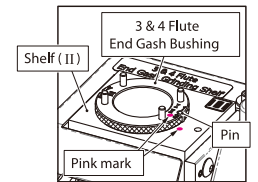

Fig. 7-2
2. End Gash Grinding Shelf (II) (Fig. 7-2) Insert 3 & 4 Flute End Gash Bushing into the Shelf (II), align No.(I-II) of the bushing to the pin on the shelf, then insert it to the end.